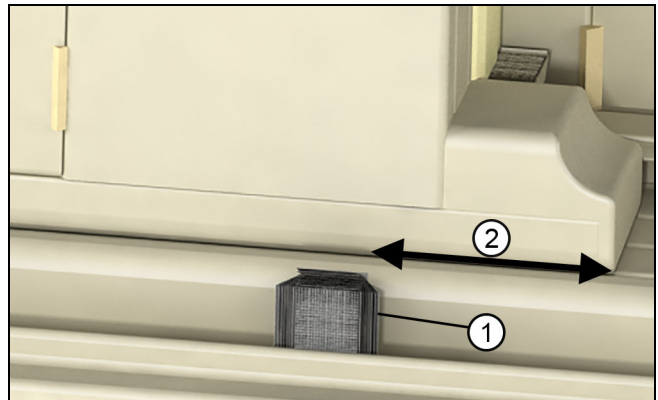

Figure 2
2. Place a dust block sitting vertically approximately 2" (51) from each end cap tight to the sill. See Figure 2.